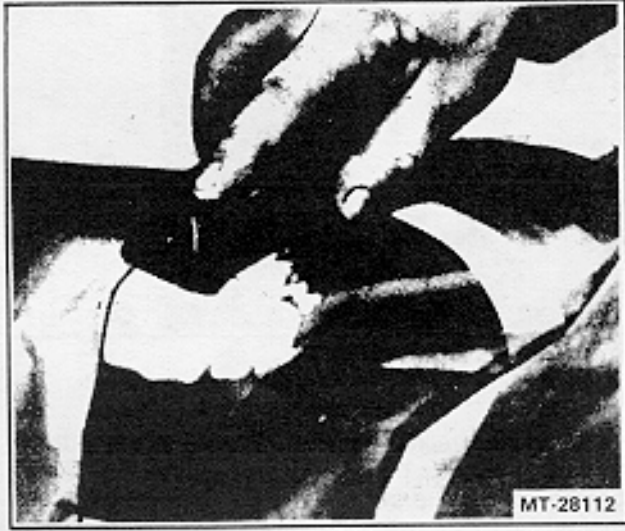

Figure 13 – Establishing Surface Contour
**NOTE--** When filing excess, leave the filler level slightly higher than that of the original surface (Figure 13).